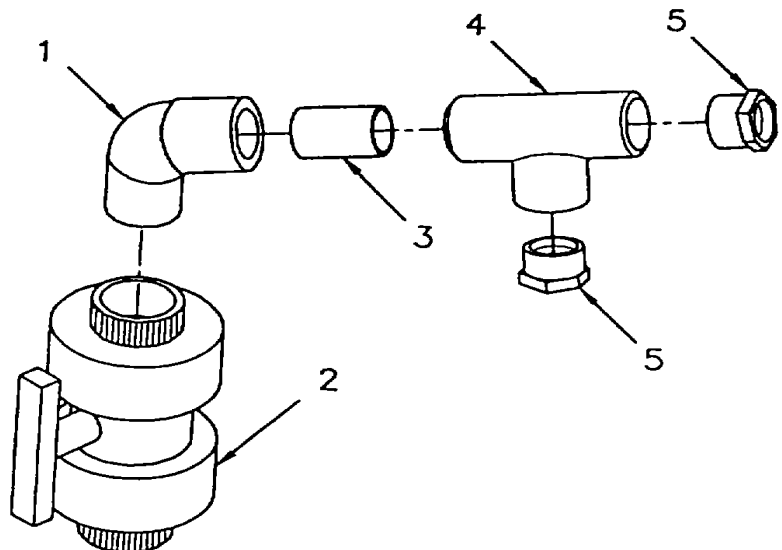

Figure 5-1. Outlet Pipe Assembly
- (1) Insert street elbow (1, Figure 5-1) into ball valve (2).
- (2) Insert pipe (3) into street elbow (1).
- (3) Install tee (4) over pipe (3).
- (4) Temporarily install outlet pipe assembly (refer to para 4.17d).
- (5) Scratch alignment marks on assembled parts.